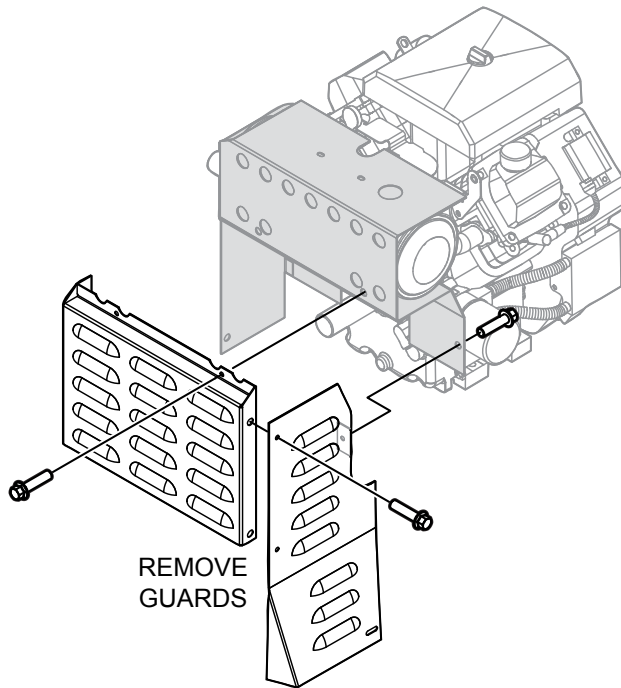

Figure 5. Remove Belt and Muffler Guards
4. Use a 3/8" socket to remove the 6 mounting bolts that secure the belt guards (Figure 5) to the engine. Set aside for later use.